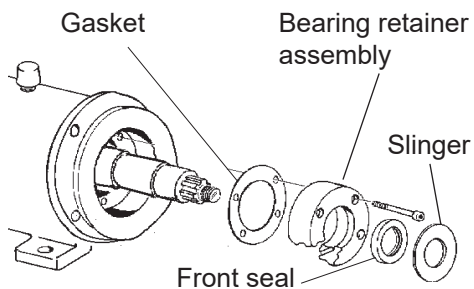

Figure 26
1. See Figure 26. Pull off the slinger.
2. Remove the bearing locknut from the shaft (counter-clockwise) and press off the front bearing (Figure 26).